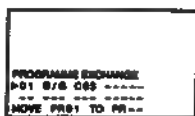

Fig. 9
- 3 Select "PROGRAMME EXCHANGE" with Δ or ∇ and press OK. The PROGRAMME EXCHANGE menu appears. (See Fig. 9.)